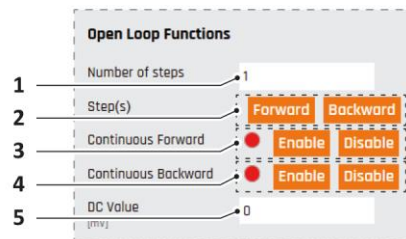

Figure 19 Axis tile, "Open Loop Functions" section
- To vary the number of steps implemented with each stepwise move, type in the desired value into the number of steps setting field (Figure 19/1) and press [Enter].
- To initiate a stepwise movement in positive direction, click [Forward] on the stepwise movement control (Figure 19/2).
- To initiate a stepwise movement in negative direction, click [Backward] on the stepwise movement control (Figure 19/2).
- To initiate a continuous movement in positive direction, click [Enable] on the continuous forward control (Figure 19/3).
- To stop a continuous movement in positive direction, click [Disable] on the continuous forward control (Figure 19/3).
- To initiate a continuous movement in negative direction, click [Enable] on the continuous backward control (Figure 19/4).
- To stop a continuous movement in negative direction, click [Disable] on the continuous backward control (Figure 19/4).
- To manually adjust the position, type in the desired value into the DC level setting field and press [Enter] (Figure 19/5).